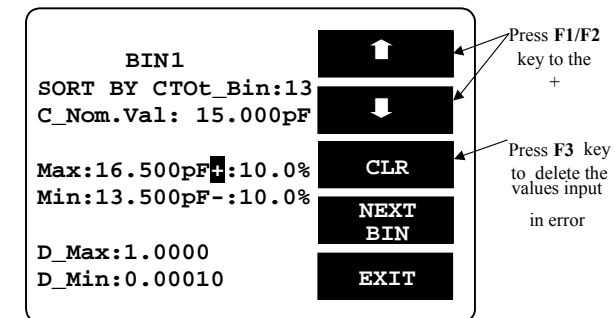

Figure 8-18
- Press  key. Please refer to Figure 8-18 below.